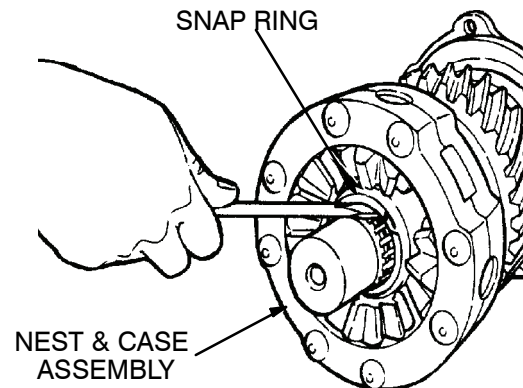

Figure 21. Inter-Axle Differential Removal.
- (3) Remove the snap ring that fastens the inter-axle differential assembly to the input shaft. Remove the inter-axle differential assembly from the input shaft. Figure 21.